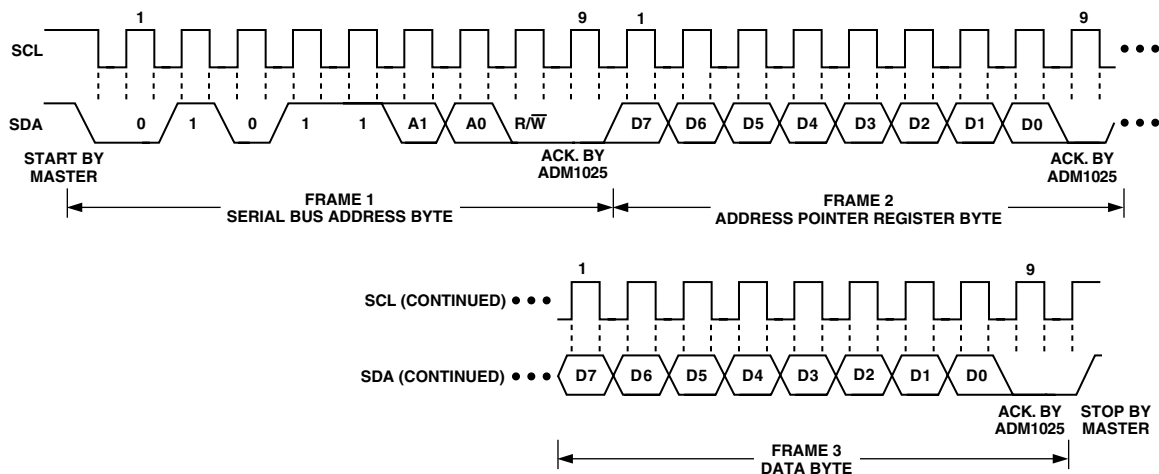

Figure 9a. Writing a Register Address to the Address Pointer Register, then Writing Data to the Selected Register
This is illustrated in Figure 9a. The device address is sent over the bus followed by R/\overline{W} set to 0. This is followed by two data bytes. The first data byte is the address of the internal data register to be written to, which is stored in the Address Pointer Register. The second data byte is the data to be written to the internal data register.
2. In Figures 9a to 9c, the serial bus address is shown as the default value 01011(A1)(A0), where A1 and A0 are set by the three-state ADD pin.